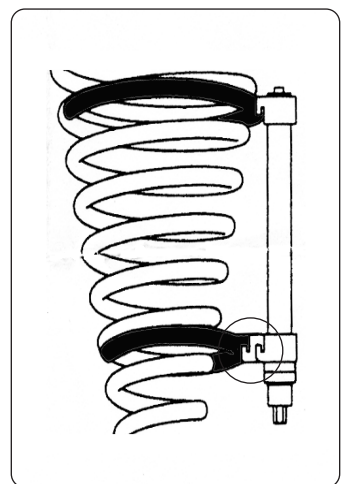

fig.4
- 5.2. If necessary use the extension block as in fig.4 to keep the spring and compressor body parallel.